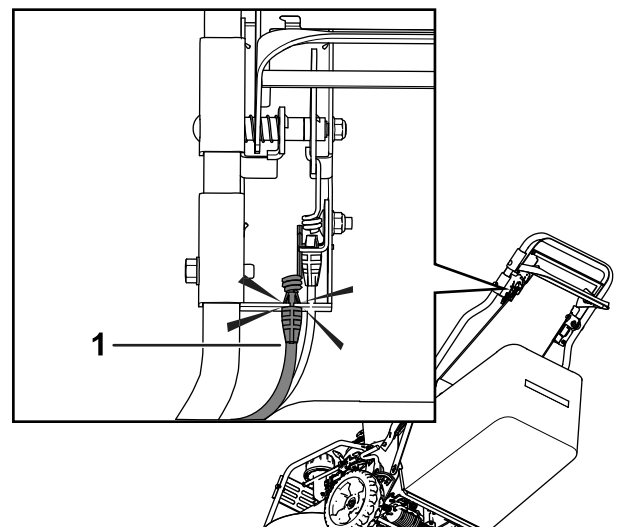

Figure 13
6. Attach the brake cable to the handle bracket (Figure 13).